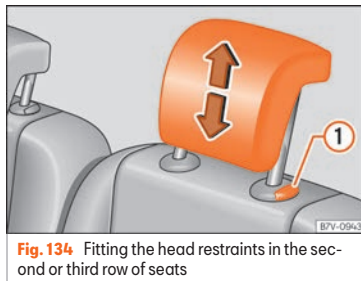

Fig. 134 Fitting the head restraints in the second or third row of seats
- Remove the head restraint completely while pressing button » » » **Fig. 134 ①**.